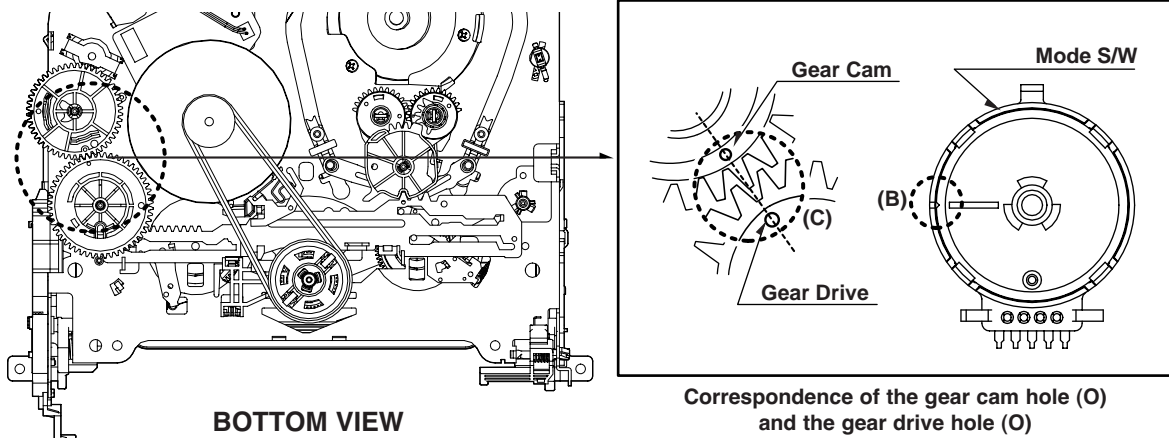
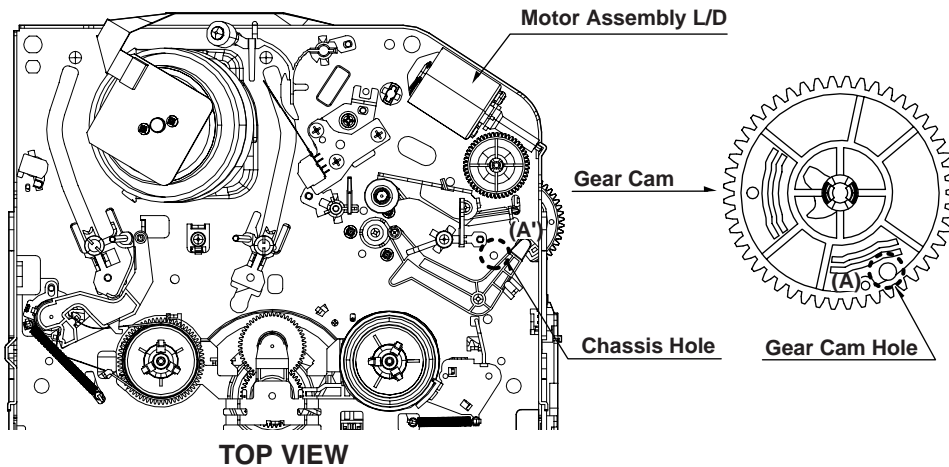

Fig. C-1
Fig. C-2
<p>1) Turn the VCR on and take the tape out by pressing the eject button.</p> <p>2) Separate both top cover and plate top, and check both the hole (A) of gear cam and the hole (A') of chassis correspond (Fig. C-2).</p> <p>3) If it is done as in the paragraph 2): Turn the gear cam as in No.2) after mantling the motor assembly L/D.</p> <p>4) Undo the screw fixing the deck and the main frame, and separate the deck assembly. Check both the hole (A) of gear cam and the hole (A') of chassis correspond (Fig. C-1).</p> <p>5) Check the mode S/W on the main P.C. board locates at a proper position as in (B) of the Fig. (C-1).</p> <p>6) Connect the deck to the main P.C. board and perform all types of test.</p>